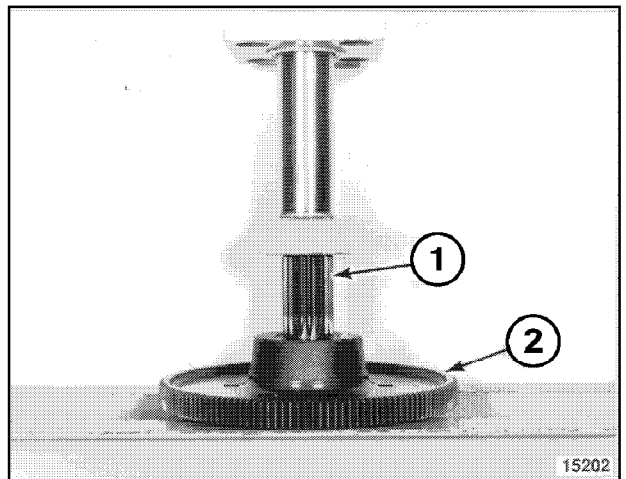

Figure 54
- H. Invert assembly and remove retaining ring. Press sun gear shaft (1, Figure 54) from bull gear (2).